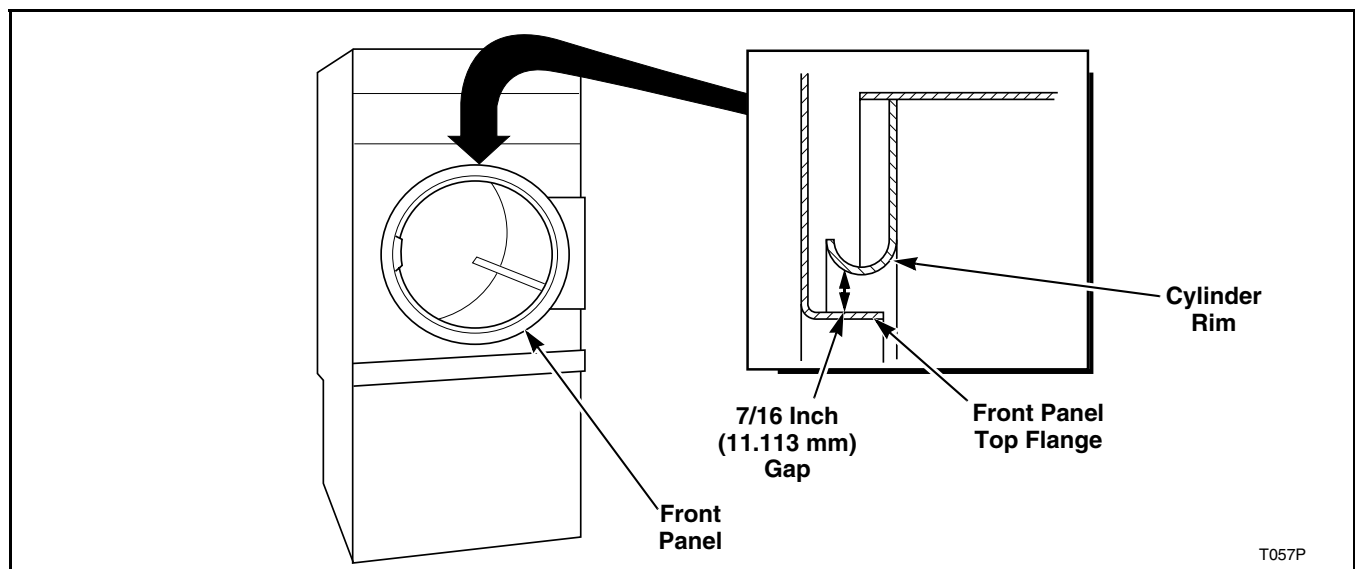

Figure 1
- a. Open loading door and check the gap between the center of the front panel top flange and the cylinder rim. Proper adjustment is when the gap is 7/16 inch (11 mm). Refer to *Figure 1*.